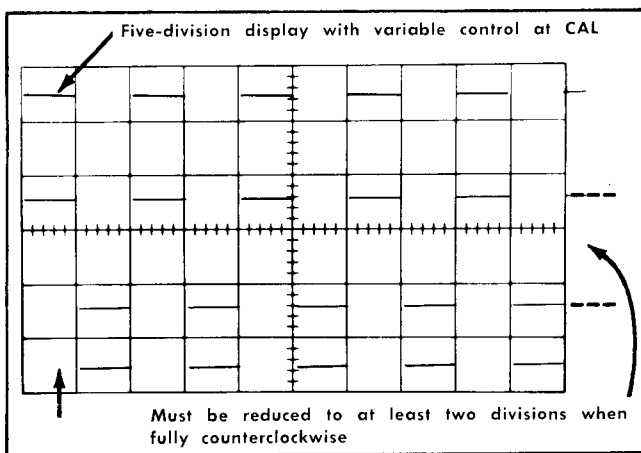

Fig. 5-3. Typical crt display showing correct VARIABLE VOLTS/DIV control range (double exposure).
- e. Check—Maximum deflection of 2 divisions (2.5:1 range). See Fig. 5-3. UNCAL light must be on when VARIABLE control is not in CAL position.
- h. Check—Maximum deflection of 2 divisions (2.5:1 range). See Fig. 5-3. UNCAL light must be on when VARIABLE control is not in CAL position.